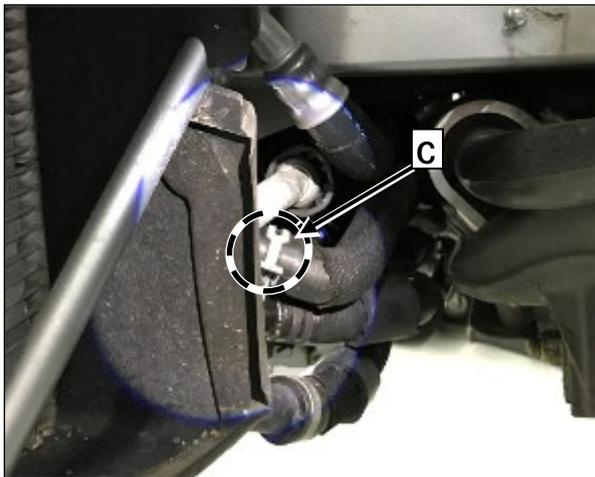

Figure 3
9. Extend left low-temperature water hose (C, Figure 3) with adapter A 190 501 67 00 (Figure 5).